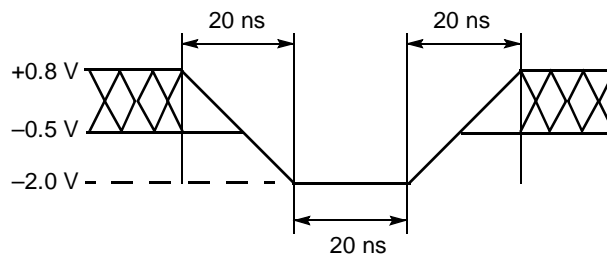
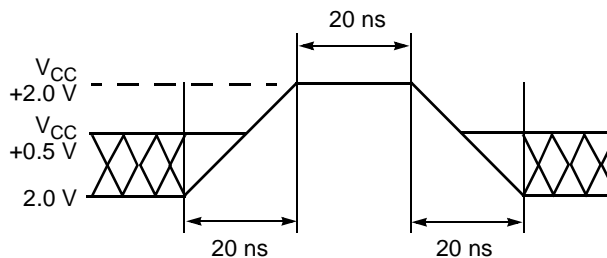

Figure 7. Maximum Negative Overshoot Waveform
Figure 8. Maximum Positive Overshoot Waveform
1. Minimum DC voltage on input or I/O pins is -0.5 V . During voltage transitions, input or I/O pins may overshoot V_{SS} to -2.0 V for periods of up to 20 ns. See Figure 7. Maximum DC voltage on input or I/O pins is $V_{CC}+0.5\text{ V}$. During voltage transitions, input or I/O pins may overshoot to $V_{CC}+2.0\text{ V}$ for periods up to 20 ns. See Figure 8.
2. Minimum DC input voltage on pins A9, OE#, and RESET# is -0.5 V . During voltage transitions, A9, OE#, and RESET# may overshoot V_{SS} to -2.0 V for periods of up to 20 ns. See Figure 7. Maximum DC input voltage on pin A9 is $+12.5\text{ V}$ which may overshoot to 14.0 V for periods up to 20 ns.